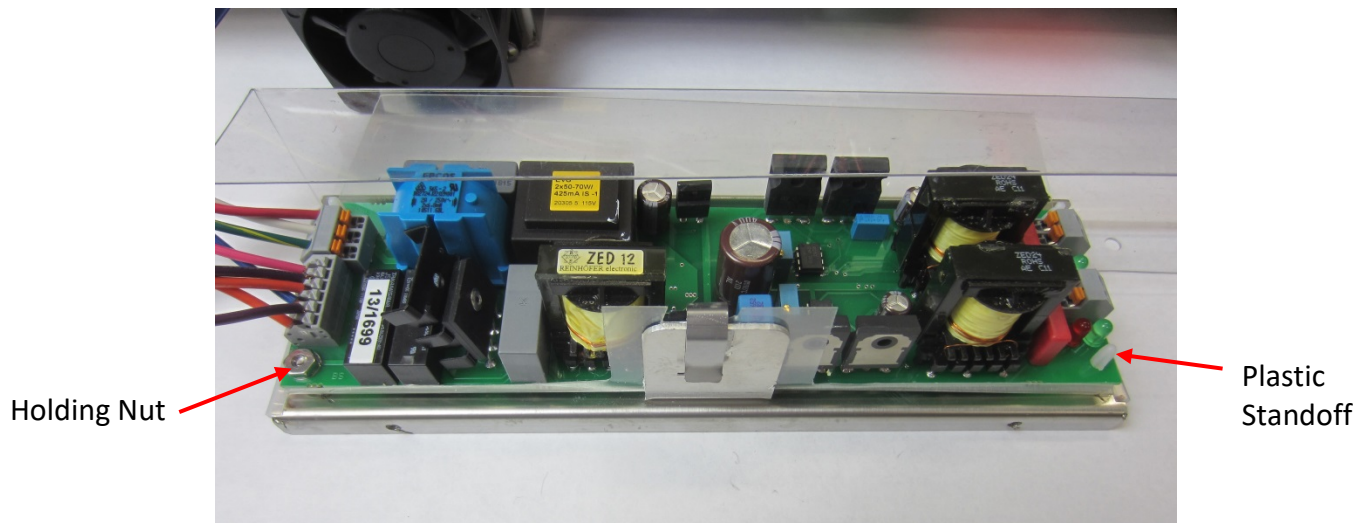
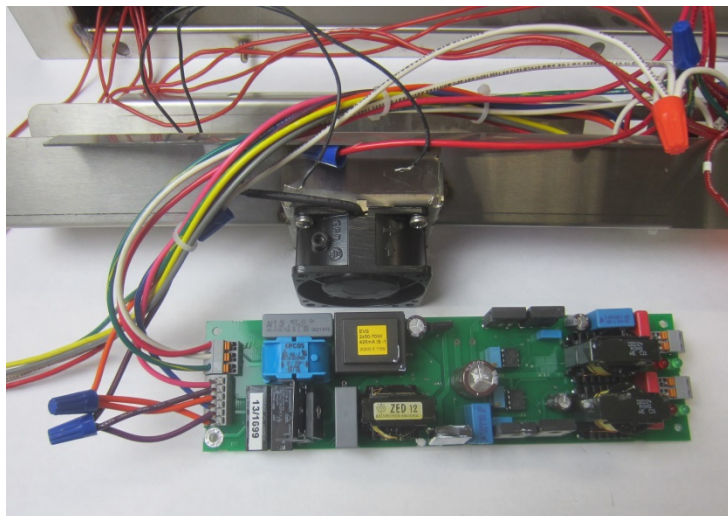

Figure 6-25-1
Figure 6-25-2
14. In the bottom left corner of the Ballast remove the holding nut (Refer to Figure 6-25-1).
15. On each plastic standoff that supports the remaining three points of the Ballast, use a screw driver or needle nose pliers and push in on the holding tab while prying up on the Ballast (Refer to Figure 6-25-1). Once the Ballast is loose from the Ballast chassis, place the chassis to one side and place the Ballast in front of the Raceway as shown in Figure 6-25-2